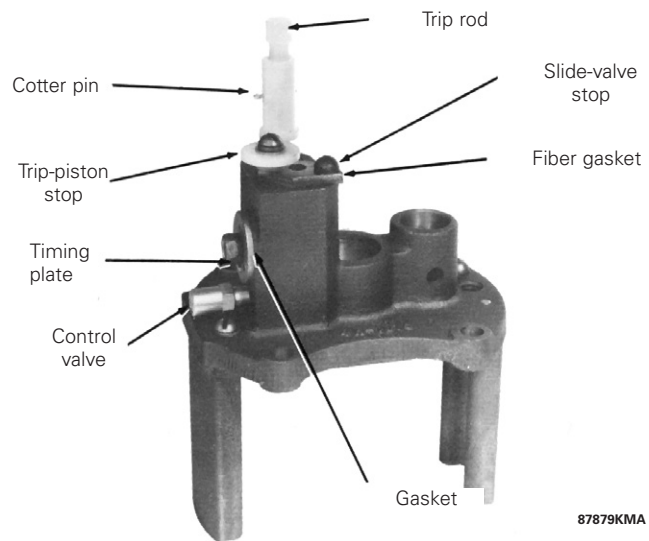

Figure 19. Solenoid frame and hydraulic mechanism
- Remove upper solenoid gasket and impact washer shown in Figure 19.